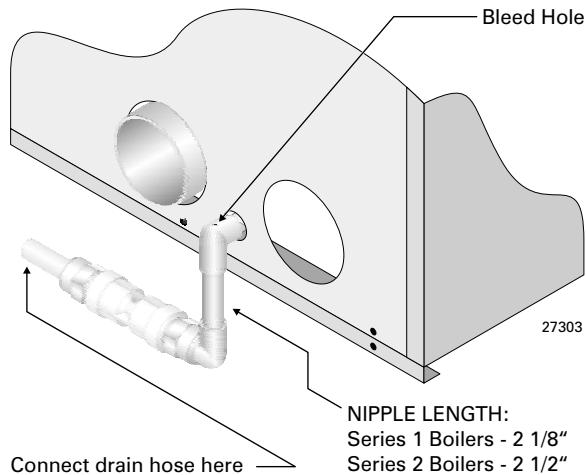

Figure 4 GV Series 1 and 2 Boilers only –
- Step 4** Determine preferred routing of check valve assembly. Figure 3 and Figure 4 on the next page show acceptable methods for GV Series 1 and 2 Boilers, while Figure 5 shows the acceptable methods for GV Series 3 and 4 Boilers.